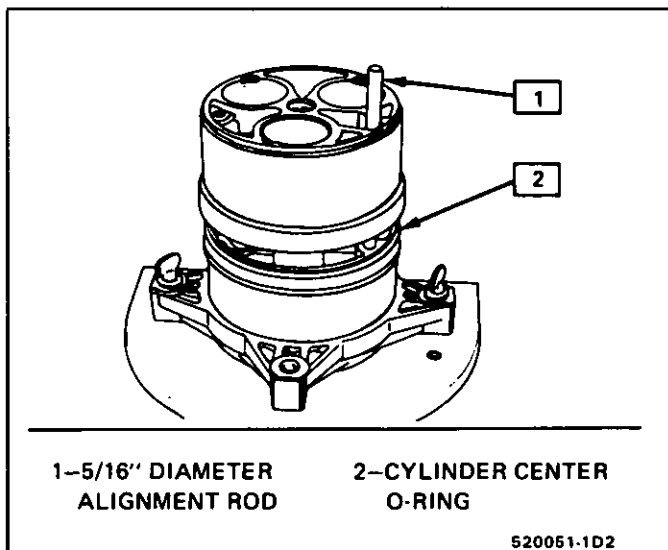

Fig. 50 Cylinder Alignment Rod Through Cylinder Halves
Carefully lower the assembly over the guide pins to the rear head (Fig. 50).
10. Lubricate a new cylinder to front head O-ring with clean 525 viscosity refrigerant oil and install O-ring in front cylinder O-ring groove (Fig. 50).